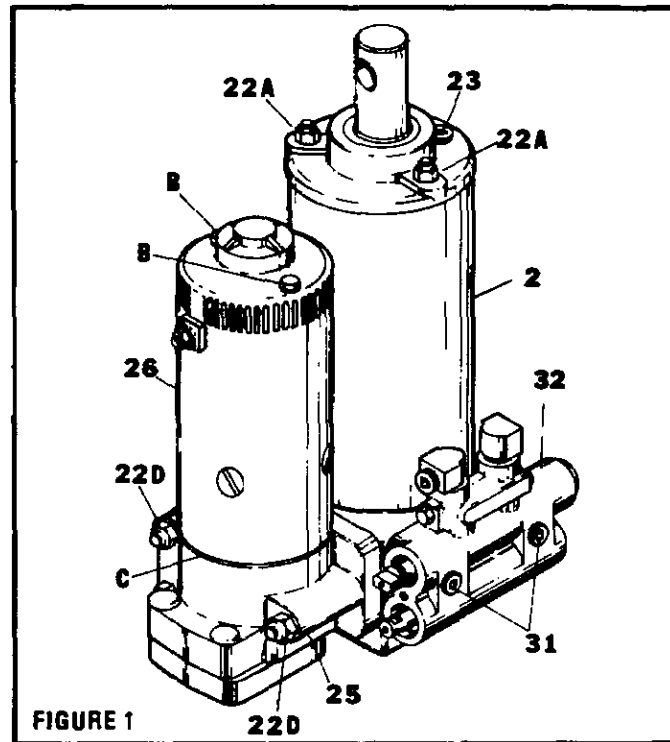

FIGURE 1
**NOTE:** The following instructions includes disassembly of the unit and inspection of components by subassemblies and reassembly of unit. Remove filler plug (23) (See Fig. 1) and drain oil from reservoir. Clamp base in vise before doing any disassembly. Subassemblies can be removed without taking the unit completely apart. Removal of the subassemblies is as follows:
1. **COVER ASSEMBLY, TANK, RAM AND CYLINDER PARTS (See Fig. 1)**
2. **MOTOR FROM PUMP (See Fig. 1)**
3. **PUMP FROM BASE (See Fig. 1)**
4. **VALVE FROM BASE (See Fig. 1)**